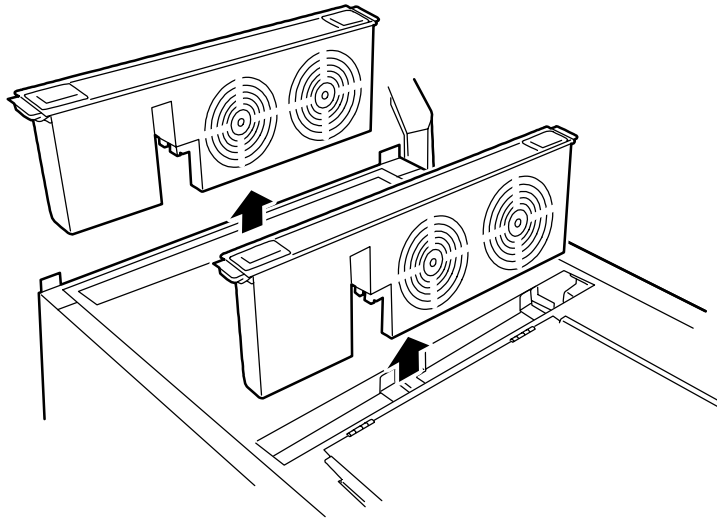

Figure 4-4. Removing the Front and Rear Fan Modules
4. Lift the fan module straight up and out of the chassis. See Figure 4-4.